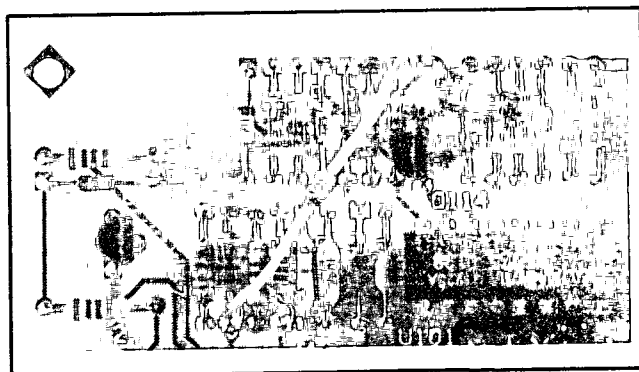

Figure 2-4. A3CR123 Installation
Read the entire set of instructions and review Figure 2-4, "A3CR123 Installation" before beginning. Review the general safety consideration and the static sensitivity topics in Section VIII of the Service Manual.
K. Wrap the lead from the cathode (the end with the stripe of A3CR123 to the A3R146 tie point. This lead should make one full turn around the tie point to insure good mechanical contact, the lead should have a slight bend to relieve stress and the end of the flexible tubing should end  $< .1$  inch from the tie point. See Figure 2-4, "A3CR123 installation".
from the tie point. See Figure 2-4, "A3CR123 Installation."